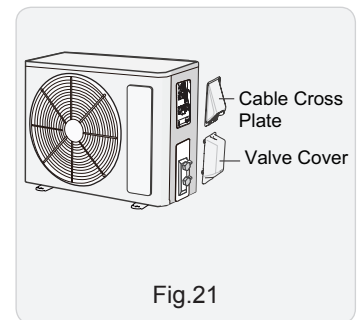

Fig.21
- (1) Remove the screw on the valve cover of outdoor unit and then remove the valve cover.(As show in Fig.21)